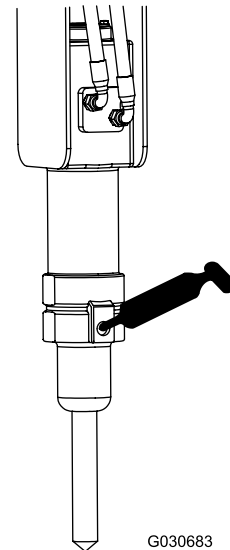

Figure 6
4. Connect a grease gun to the fitting (Figure 6).